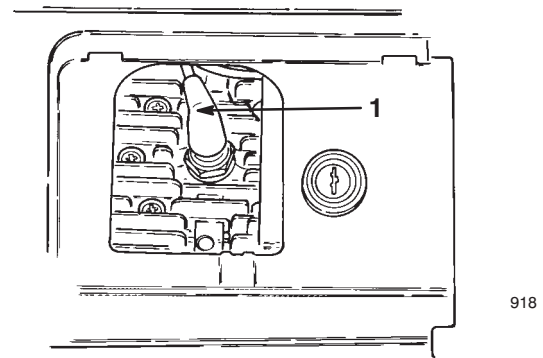

Figure 14
5. Disconnect the wire from the spark plug (Fig. 14).